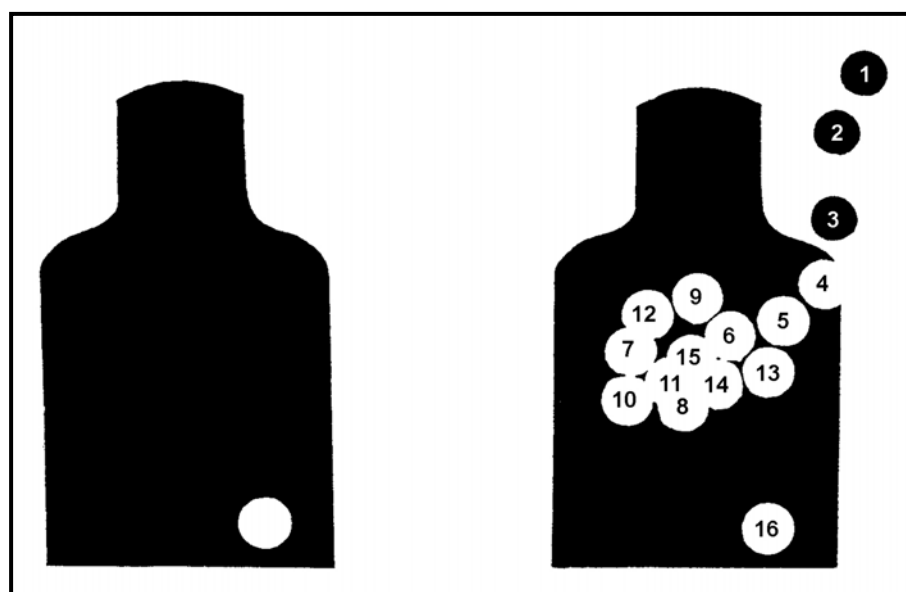

Figure A-12. Replay of shot.
(3) **Immediate-Shot-Impact Display.** When a shot is fired, its impact relative to the target is immediately displayed on the video screen as a blinking white dot (Figure A-12, left target).
(a) The target to the right in Figure A-12 shows the type of information that can be replayed on the video screen after a series of shots are fired. To show the sequence, the dots have been numbered.
- STEP 5.** Replay each shot to show the firer his aim, steadiness, and trigger squeeze. In Figure A-12, on page A-16, the target on the right shows a numbered series of 16 shots. Dots 1 through 4 indicate that the firer approached the target from high right. Dots 5 through 15 show that he is aiming near the center of the target but does not have a steady position. The sudden shift from dot 15 to 16 (dot 16 is the hit point of the shot) indicates that gun-shyness or improper trigger squeeze caused the firer to pull his aiming point down and to the right just before firing. Replay helps the firer understand and correct his firing errors.
(1) Direct the soldier to zero the Weaponeer rifle (sandbag supported position). Emphasize tight, consistently placed shot groups. Starting with the closest target and working out to the most distant, direct the soldier to practice slow precision fire at each target (supported and prone unsupported positions).
(2) Direct the soldier to slow fire at random pop-up targets (both firing positions). Emphasize speed and precision. Direct him to slow fire at random pop-up targets with short exposure times (both firing positions).